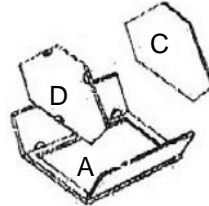

Figure 4
3. **Installing the Top and Bottom (Figure 4):** Gently spread side panels and insert top (D) and bottom (C) into the grooves of side panel (B) until it touches the face frame (A). Well align it and lock each cam.